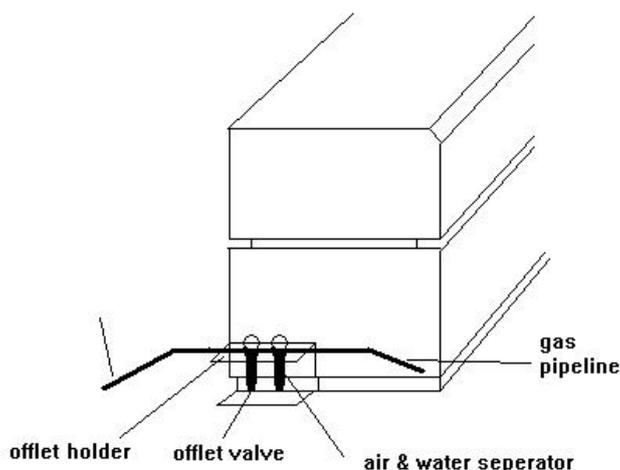

Fig 3-3 Connection schematic diagram of gas-water separator of DW-210 Instrument
- 1) Take out the water support from the water bag and put it on the position shown on the main unit diagram of Fig.3.3.